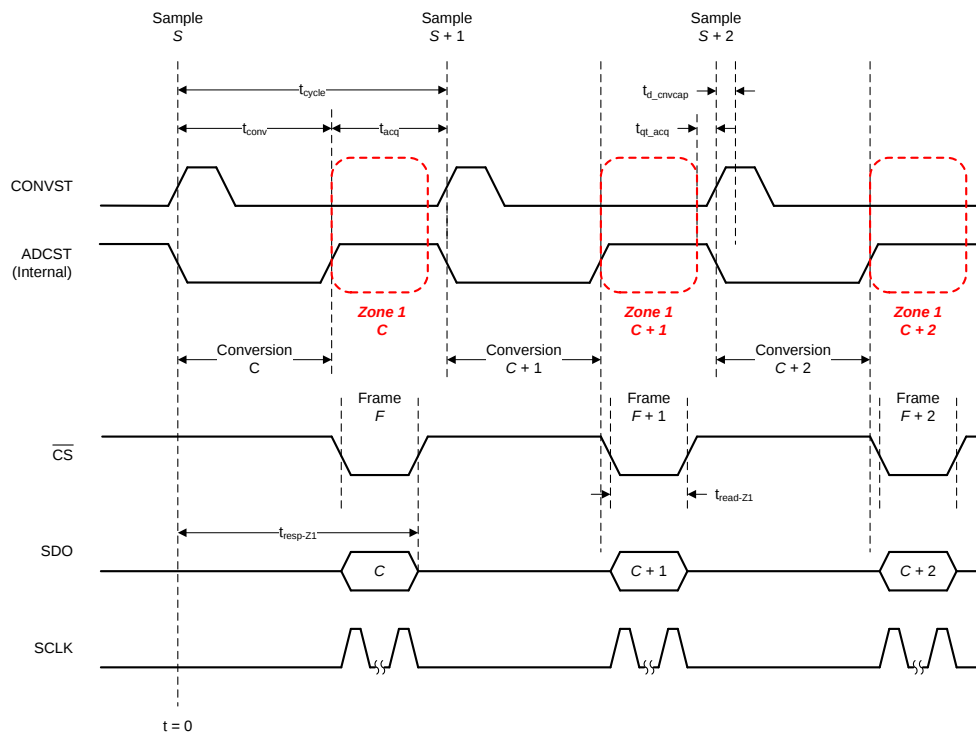
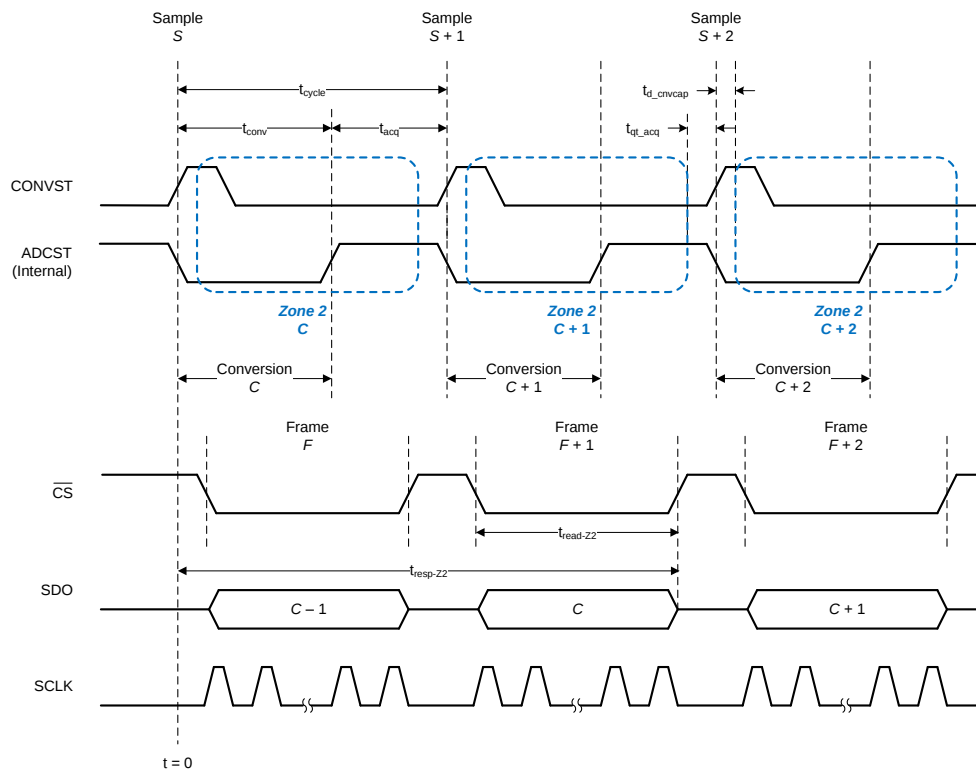

Figure 47. Zone 1 Data Transfer
Figure 48. Zone 2 Data Transfer
Figure 47 and Figure 48 illustrate interleaving of three conversion cycles (C , $C + 1$, and $C + 2$) with three data transfer frames (F , $F + 1$, and $F + 2$) in zone 1 and in zone 2, respectively.
- Extended data transfer window, as shown in Figure 48.